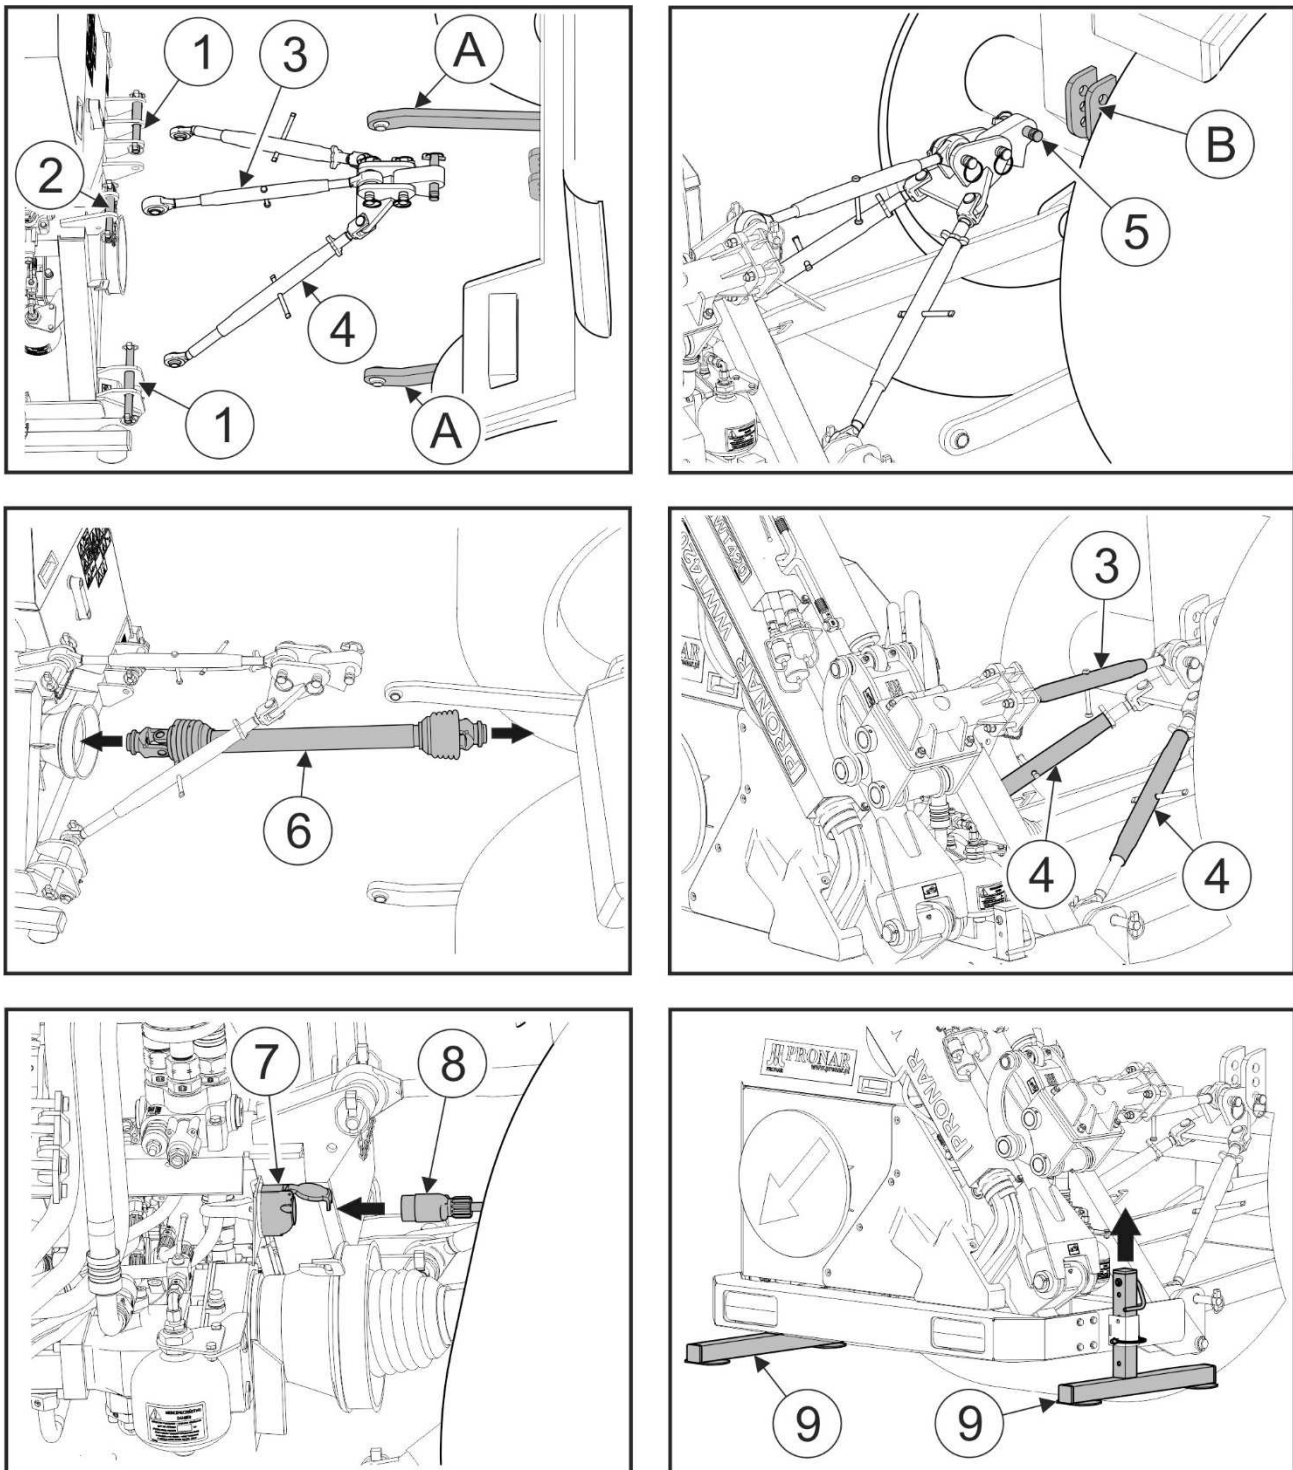

FIGURE 4.1 Attaching the multifunction arm to the carrying vehicle (agricultural tractor).
In order to attach the multifunction arm to the carrying vehicle (agricultural tractor) rear three-point linkage you must adhere to the following guidelines (FIGURE 4.1):
- Lock the linkage by means of the three-point linkage lock linkage arms (4) (FIGURE 4.1).
- Connect the electric socket of the carrying vehicle (agricultural tractor) electric system with the electric socket (7) of the multifunction arm's electric system by means of an electric cable (8) (FIGURE 4.1).
- Raise the support feet (9) to the maximum height and secure them with a cotter pin.